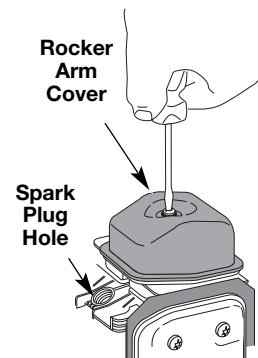

Fig. 52
5. Clean dirt from around the rocker arm cover. Remove the screw holding the rocker arm cover with a large flat blade screwdriver or Torx T-25 bit (Fig. 52). Remove the rocker arm cover and gasket.